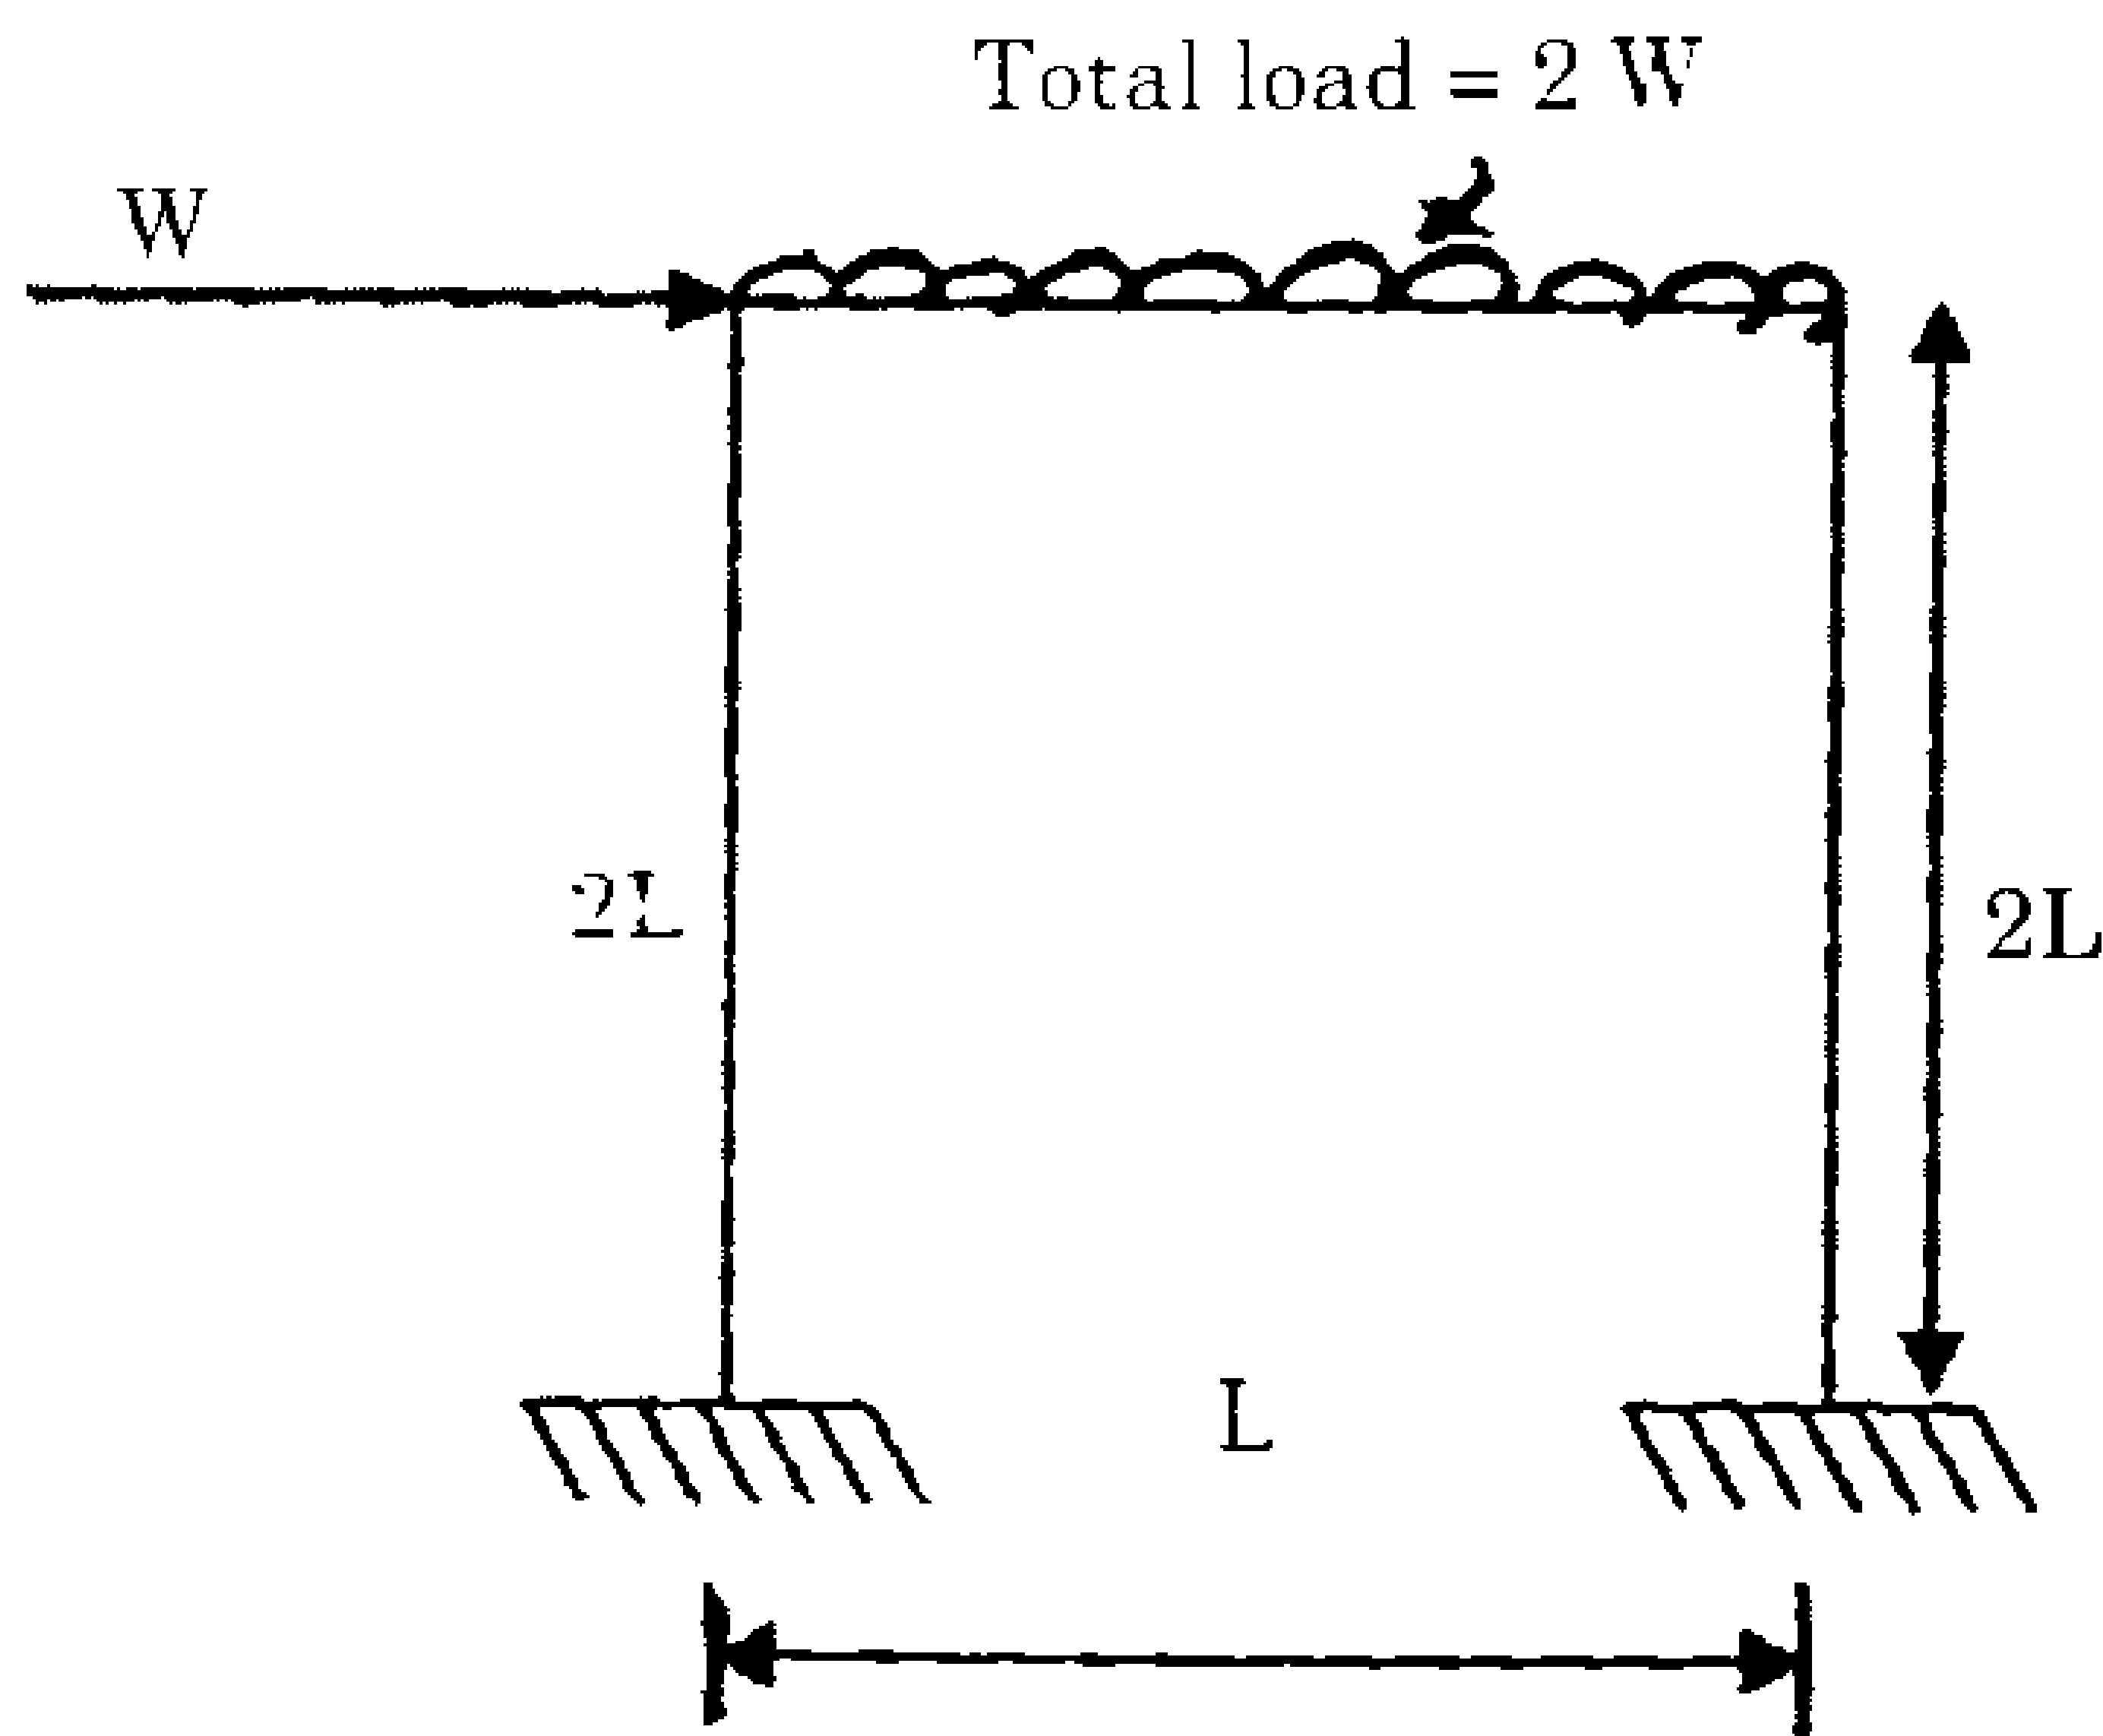

Fig. 6
4. (a) Using Plastic Analysis, calculate the ultimate load which the portal frame shown in Fig. 6 can carry. Draw the BMD at collapse. Assume uniform section for all the members. 30